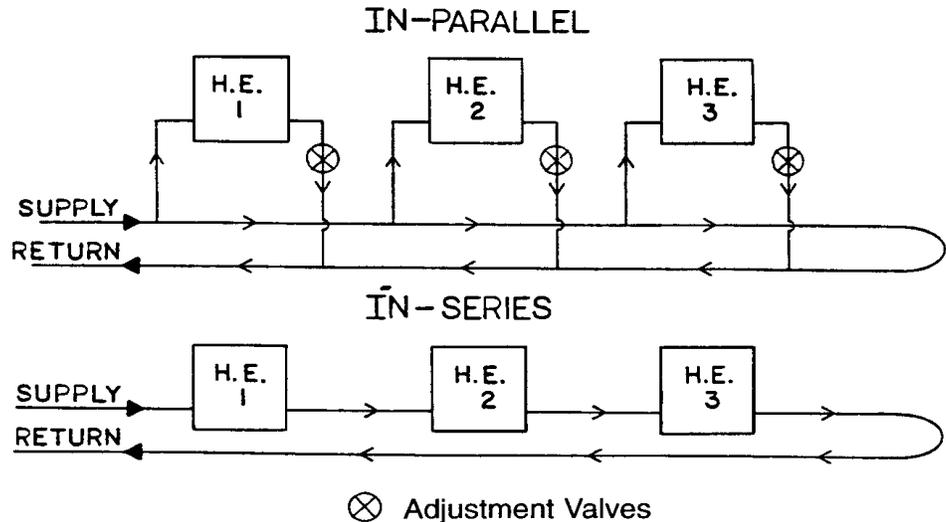

Figure 14
- B. Choose a **series** or **parallel** (or combination of both) plumbing system, see Figure 14.